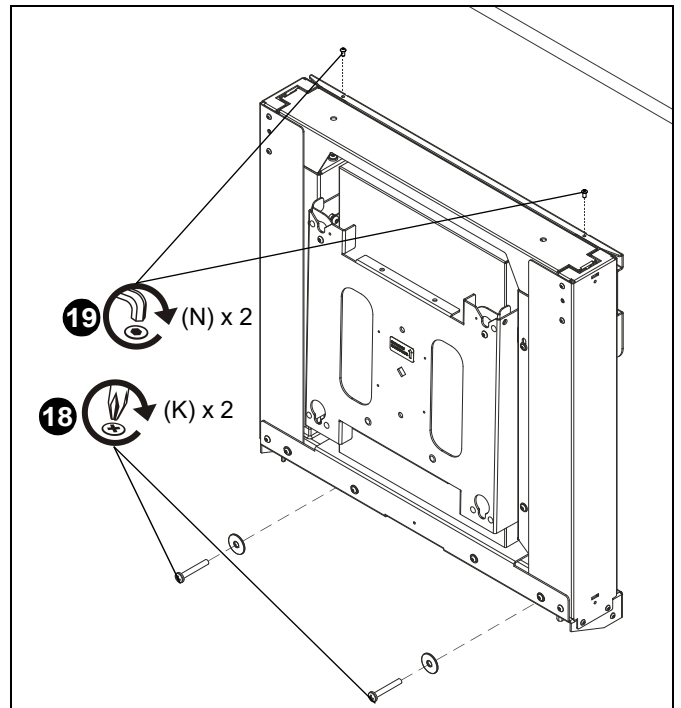

Figure 21
17. Install a toggler anchor (J) into each pilot hole following Steps 4-7 in this section.
18. Hang wall mount back onto top bracket and install two 1/4-20 x 2 1/2" Phillips pan machine screws (K) through lower mounting holes on mount and into toggler anchors (J). (See Figure 21)
19. Use two #10-24 x 1/2" button head cap screws (N) and 1/8" hex key (R) to secure mount to wall. (See Figure 21)